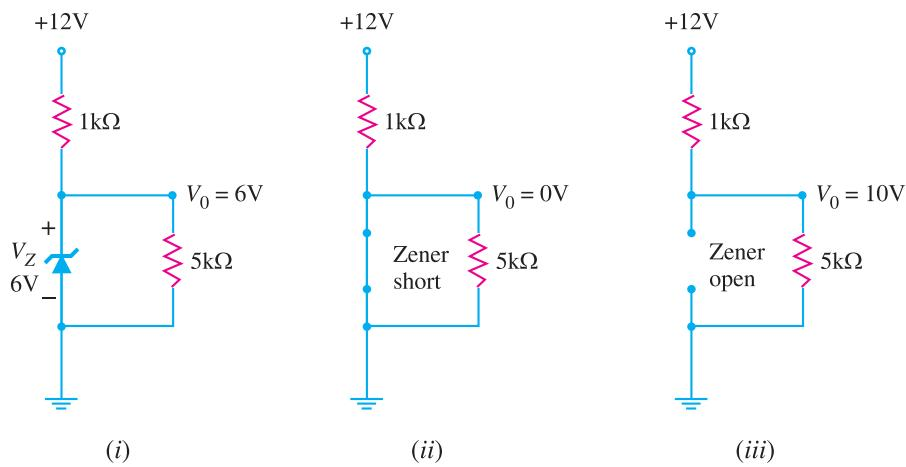

Fig. 6.70
**Example. 6.34.** Fig. 6.70 shows the basic zener diode circuits. What will be the circuit behaviour if the zener is (i) working properly (ii) shorted (iii) open-circuited?
(i) If the zener diode is working properly, the voltage  $V_0$  across the load ( $= 5 \text{ k}\Omega$ ) will be nearly 6V [See Fig. 6.70 (i)].
(ii) If the zener diode is short [See Fig. 6.70 (ii)], you will measure  $V_0$  as 0V. The same problem could also be caused by a shorted load resistor ( $= 5 \text{ k}\Omega$ ) or an opened source resistor ( $= 1 \text{ k}\Omega$ ). The only way to tell which device has failed is to remove the resistors and check them with an ohmmeter. If the resistors are good, then zener diode is bad.